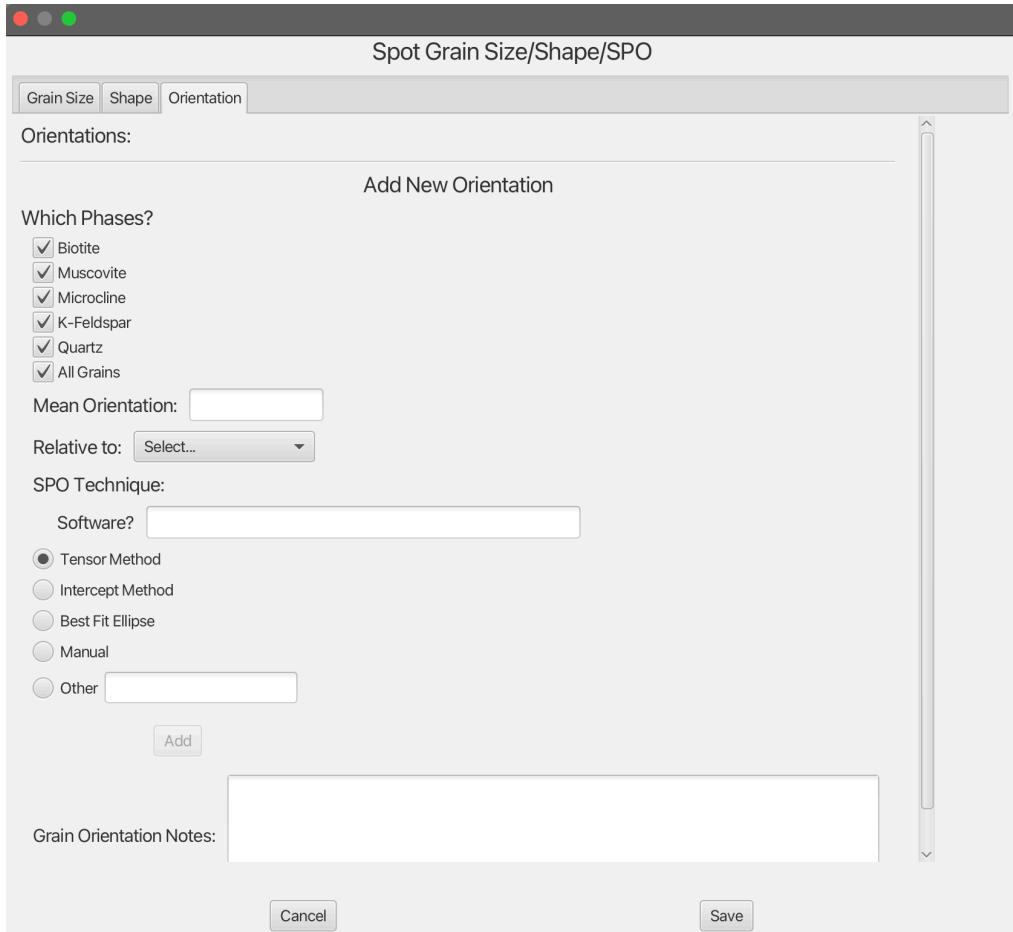

Figure 26: Shape Preferred Orientation (SPO) modal for documenting alignment of grains.
- **Shape Preferred Orientation (SPO):** Add SPO information to describe directional alignments. (See Figure 26.)